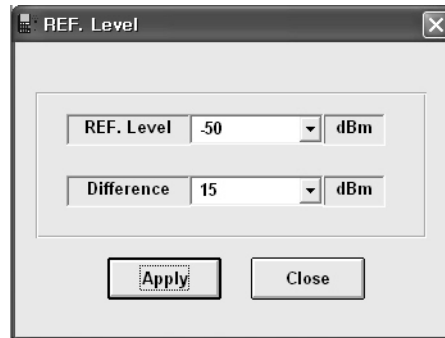

Figure 4.9. Setting window of “Set Reference Level and Difference Level”
- 1) “Set REF. Level” menu function could be using by setting reference level value. Select this menu as figure 4.9 executing set reference level windows. Relating this contents refer to “ 3.2.7. setting reference level ” .
- 2) As Figure 4.9 set reference level window display Reference level value and difference level value. For reference consideration measuring signal for which appointing display window level value also Difference level value is level grid value of display window.